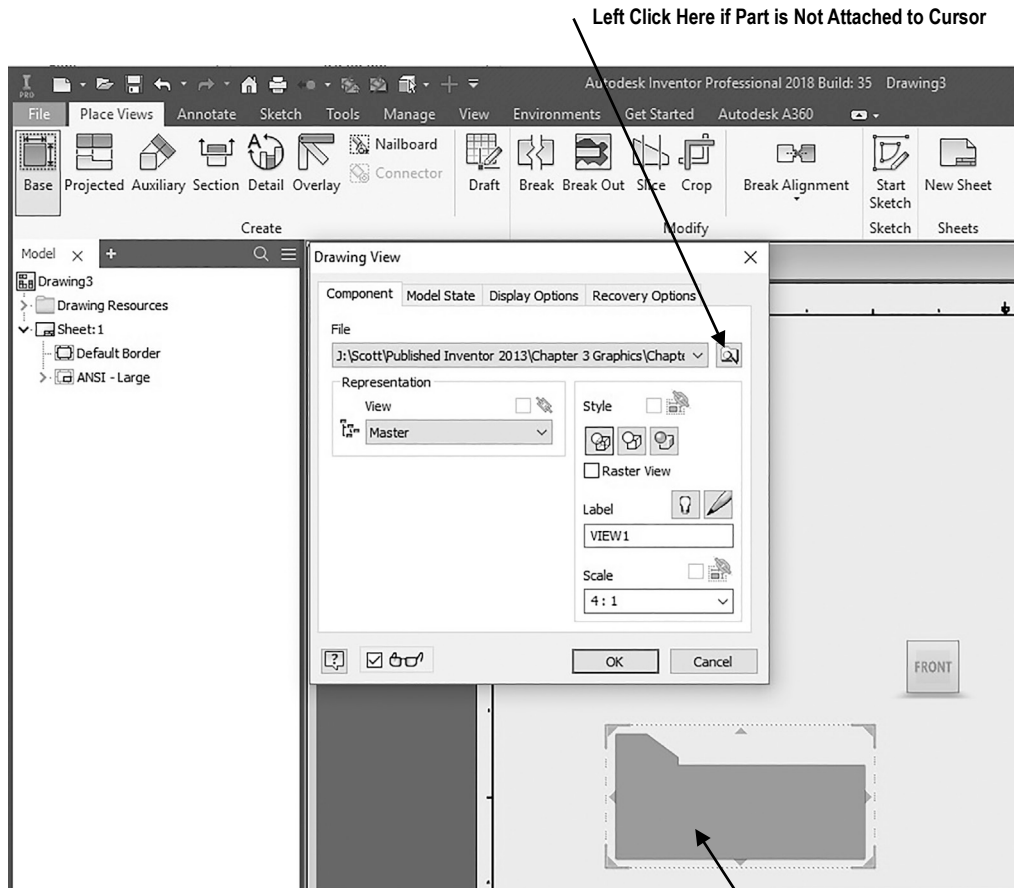

Figure 13
17. The drawing of the wedge block should appear attached to the cursor. Move the cursor around to verify it is attached. If the part does not appear attached to the cursor, use the “Explore” icon to locate the part file as shown in Figure 13.